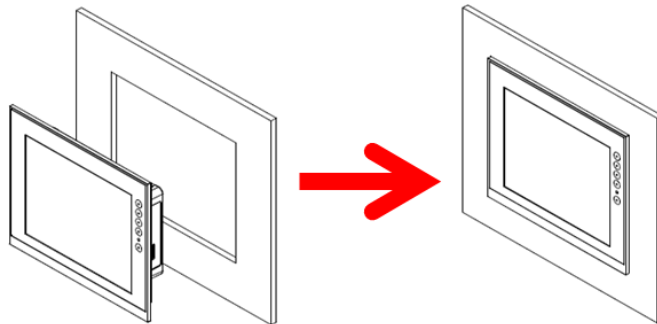

Figure 2-4: Fitting the panel PC into a frame.
Step 2 Put the panel PC into the cutout on the front side of the frame, with the panel PC's front bezel facing the outside, as shown in Figure 2-4.